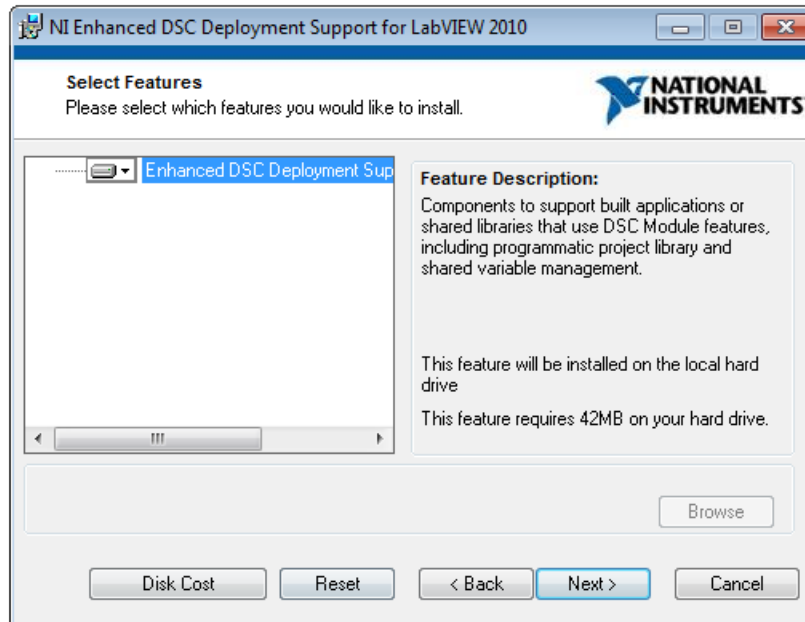

Figure 29. LabVIEW RTE Select Features
3. A window as shown in Figure 29 appears. Select the desired features in Run-Time Engine, then click the *Next >* button to continue. TI recommends keeping the default values as provided in the installer.